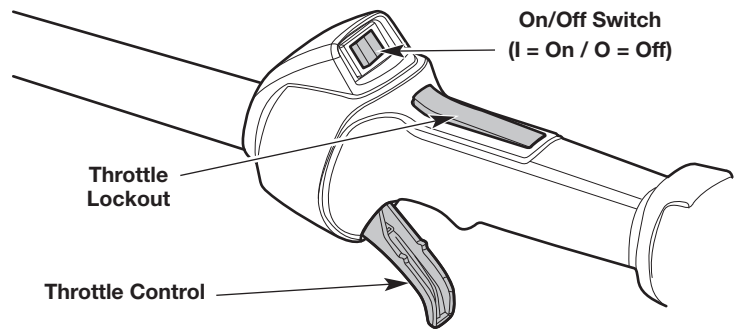

Fig. 9
NOTE: There is no need to turn the unit on. The On/Off switch is in the **On (I)** position at all times (Fig. 9).
NOTE: DO NOT squeeze the throttle control (Fig. 9) until step 6.
6. Press and hold the throttle lockout (Fig. 9). Squeeze the throttle control as needed for operation (Fig. 9).
2. Press and hold the On/Off switch in the **Off (O)** position until the engine comes to a complete stop (Fig. 9).
NOTE: DO NOT squeeze the throttle control (Fig. 9) until step 8.
8. Press and hold the throttle lockout (Fig. 9). Squeeze the throttle control as needed for operation (Fig. 9).